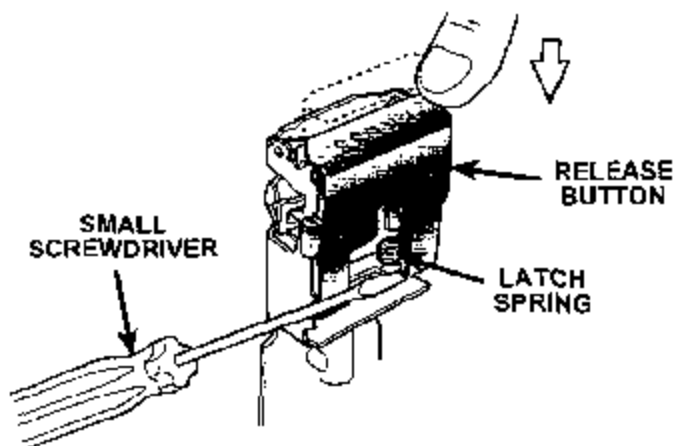

FIGURE 9
15. Depress the release button and connect the lower loop of the latch spring to the latch mechanism using a small screwdriver or pick (Figure 9).